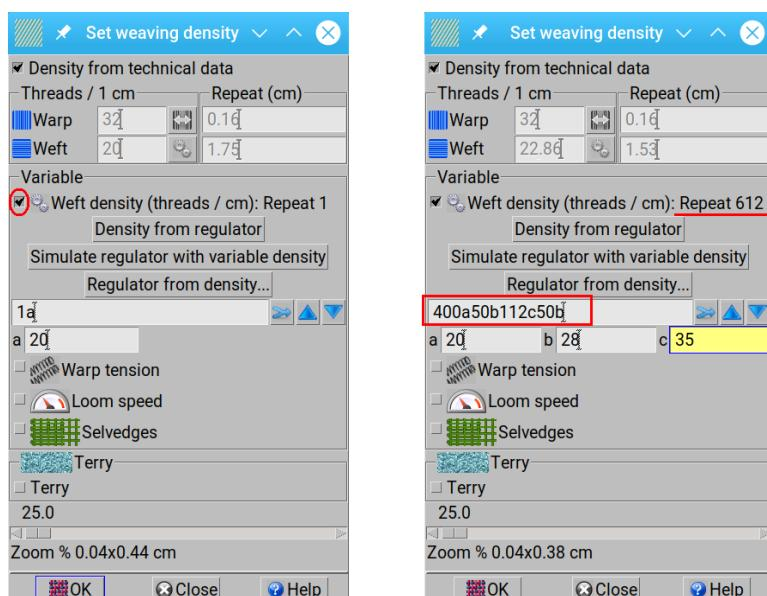

Figure 350: Setting variable weaving density
Then in the text field we type the variable density pattern. In Figure 350, the density pattern means, that 400 picks have density a, which we set to 25 picks per centimeter, then 50 picks are woven at density b, which we set to 28 wefts per centimeter, then 112 wefts are woven at density c, which we set to 34 picks per centimeter, and then again 50 picks are woven at density b. The program also calculates the total number of wefts in the variable weft density repeat (612), and the average weft density (27 per centimeter).